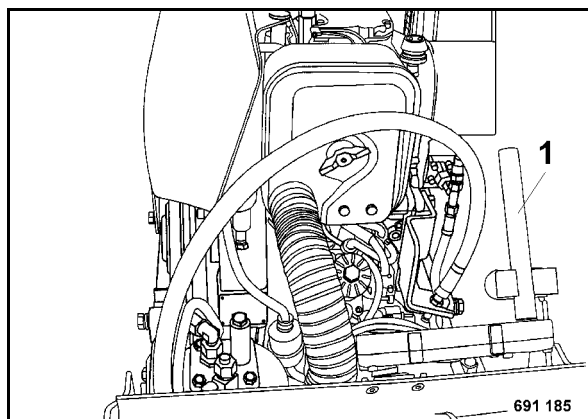

Fig. 26
- Hook the safety crank handle (1) (Fig. 26) back into the bracket.